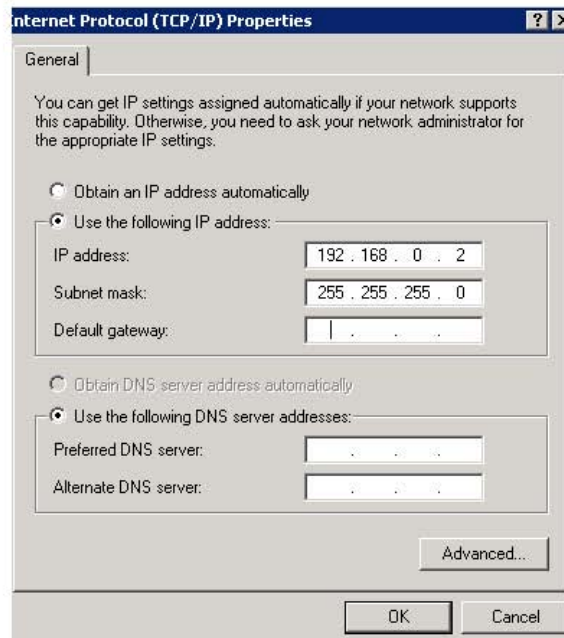

Figure 6
5. Under *Use the following IP address:* (See Figure 6)